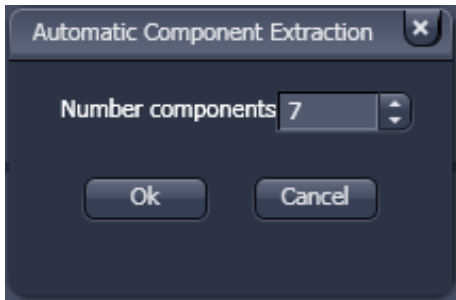

Fig. 275 ACE, number of components selection window
- Select the number of components in the sample and click **Ok** (Fig. 275).